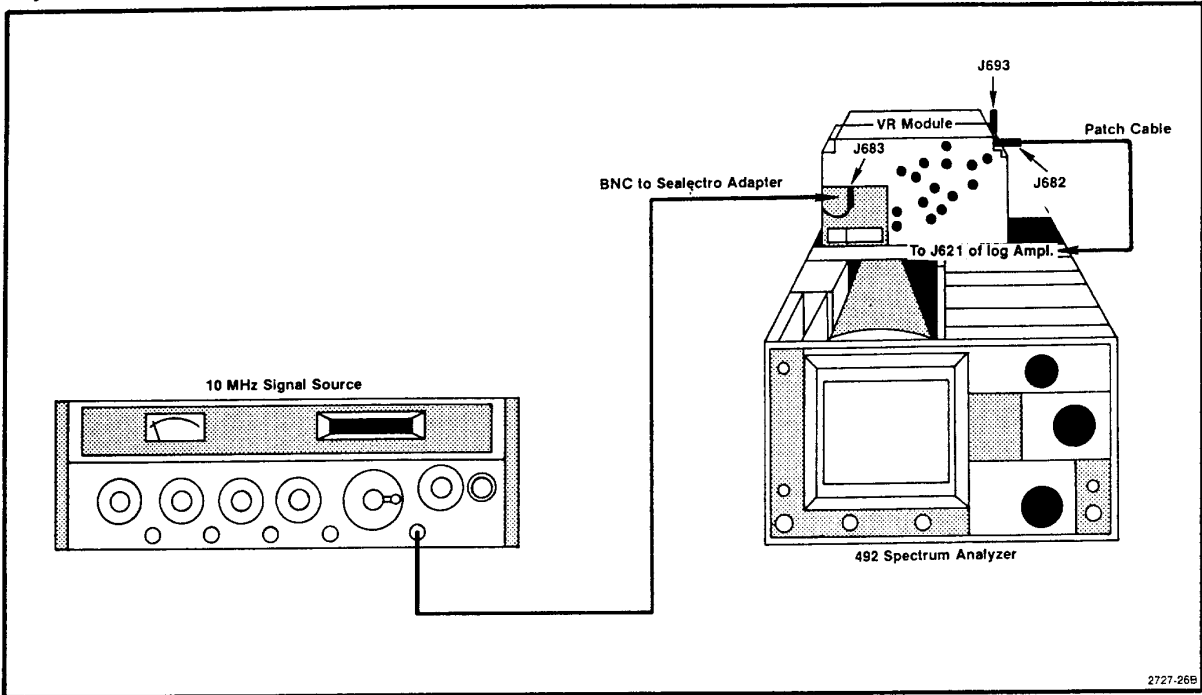
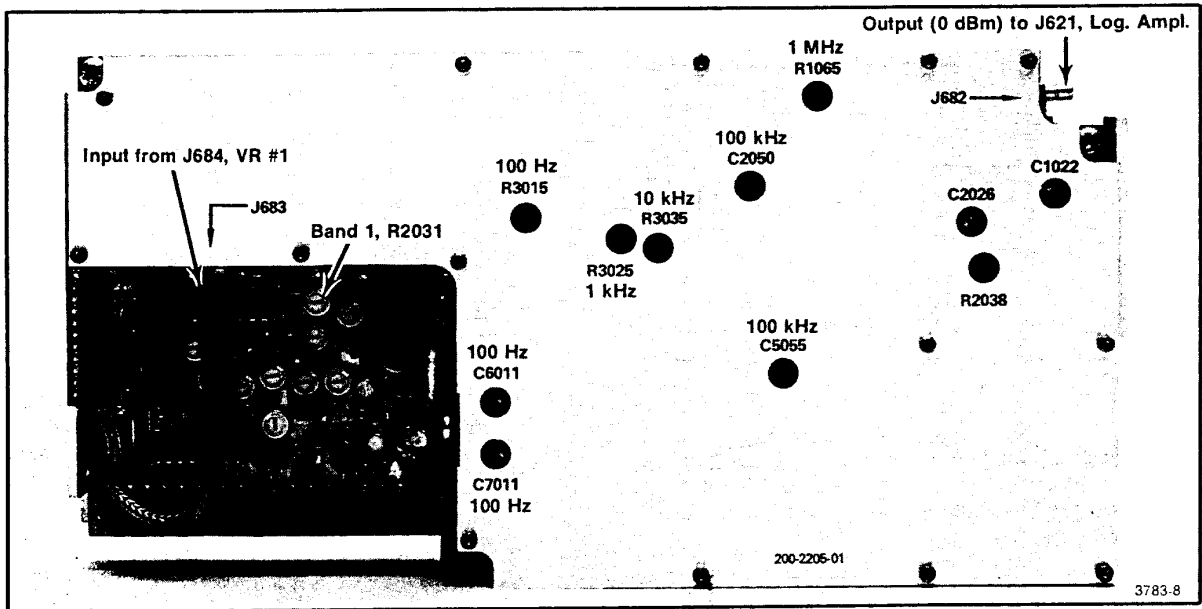
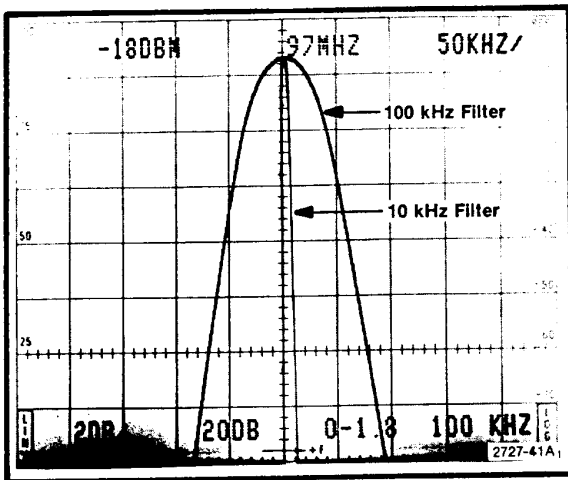

Fig. 3-41. Test equipment setup for calibrating the VR section.
Fig. 3-42. Calibration adjustments on the VR #2 module.
Fig. 3-43. Response of the 100 kHz filter.
a. Equipment setup is shown in Fig. 3-41.
d. Adjust C2050 and C5055 (Fig. 3-42) for the best 100 kHz filter shape and waveform centering (100 kHz, 3 dB down, and centered with respect to the 10 kHz reference). Refer to Fig. 3-43.
f. Adjust C2026 and C1022 (Fig. 3-42) for the best 1 MHz filter shape and waveform centering.
Locations of the adjustments are shown in Figs. 3-42 and 3-44.
*The Post VR Gain, R2038 (Fig. 3-42), is normally preset by removing the VR#2 module cover and applying a -21 dBm, 10 MHz signal to pin JJ. Adjust for a full screen display with a REF LEVEL of -30 dBm. Replace the cover before proceeding with the other gain adjustments. Band gain adjustments, other than band 1, must be done after tracking has been calibrated and flatness checked. If the range of any band gain adjustments is insufficient, add a diode between the output from U3023 and the base of Q2049, as shown on the schematic diagram for Variable Resolution No. 2.*
a. Test equipment is shown in Fig. 3-41. Install VR#2 module on an extender board as shown in Fig. 3-42. Set the front panel-controls as follows:
c. Adjust the front panel AMPL CAL to its fully ccw position and set the Band 1 Gain R2031 (Fig. 3-42) on VR#2 fully ccw.
f. If the signal is above 5 divisions, adjust the Post VR Gain R2038 (Fig. 3-42) for a 5 division signal amplitude (if the signal amplitude is less than 5 divisions proceed to part g).